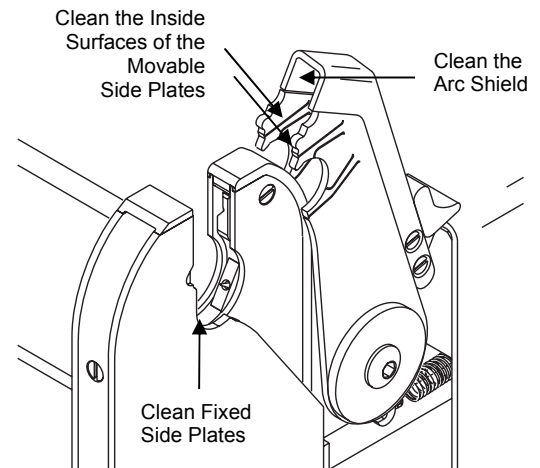

Figure 40 *Inspecting Side Plates and Arc Shield*
2. Use a stainless steel wire brush to clean the collet surfaces of the side plates that contact the work. See Figure 40.